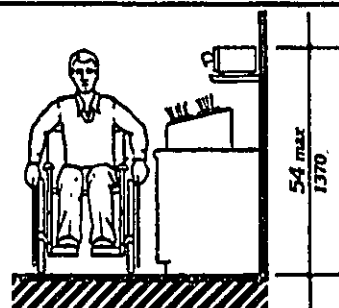

Fig. 54
5.3 Tableware Areas. Install tableware, dishware, condiment, food and beverage display shelves, and dispensing devices in compliance with 4.2 (see Fig. 54).